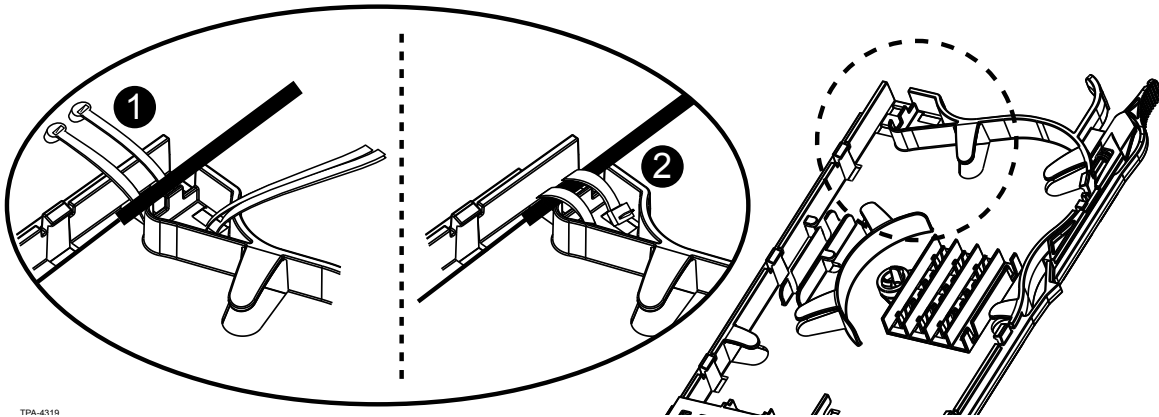

Figure 2
Step 2: Secure subunit with cable ties as it enters the cassette (Figure 2).
- Step 3:** Secure subunit with cable ties as it enters the cassette (Figure 2).